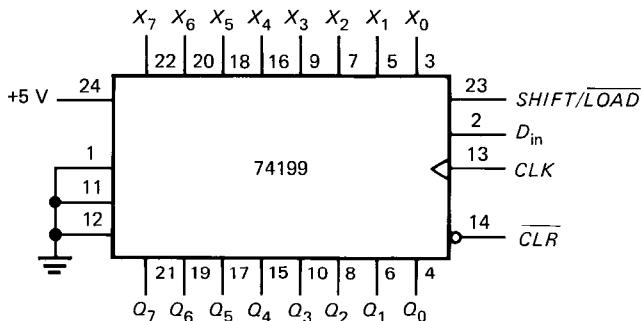

Fig. 8-30
- 8-4. A 74199 is an 8-bit shift-left register with a single control signal, as shown in Fig. 8-30. When $SHIFT/LOAD$ is low, the circuit loads the X word on the next positive clock edge. When $SHIFT/LOAD$ is high, the register shifts the bits to the left.
- 8-5. The clock frequency is 2 MHz. How long will it take to serially load the shift register of Fig. 8-30?
- 8-6. In Fig. 8-30, $\mathbf{Q} = 0001\ 0110$. If $SHIFT/LOAD$ is high and D_{in} is high, what does Q equal after three clock pulses?